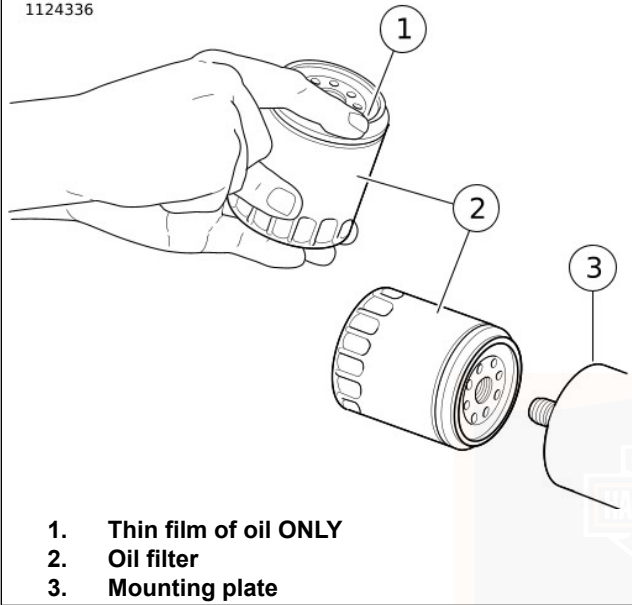

Figure 48. Applying Thin Oil Film
7. See Figure 48. Install **new** oil filter.